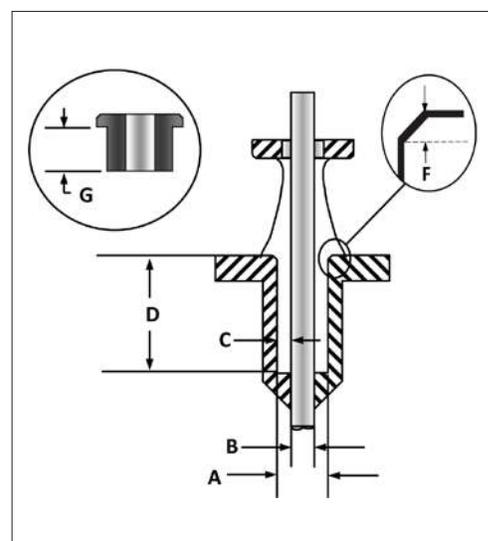

Figure 1: Equipment Measurements
5. Obtain the following equipment measurements (Figure 1):